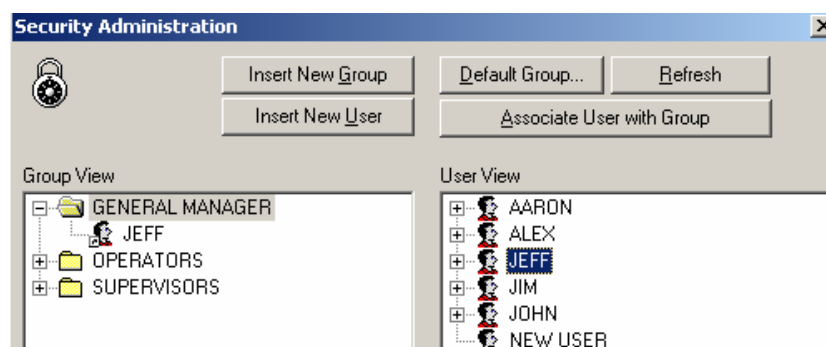

Figure 9.57. Viewing User and Group Associations
- When a user and group are associated, the user appears as a child item under the group tree in the left pane, and the group appears as a child item under the user tree in the right pane, as shown in **Figure 9.57**. In this example, the user "Jeff" has been associated with the group "General Manager."